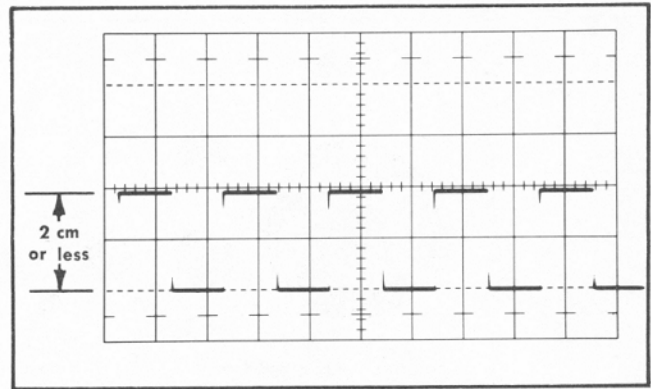

Fig. 6-11. Checking the VARIABLE control 2.5:1 ratio. This display is within the 2-cm amplitude requirement.
b. Check the vertical amplitude of the display. The display amplitude should be 2 cm or less (see Fig. 6-11) to meet the 2.5:1-or-better ratio requirement.